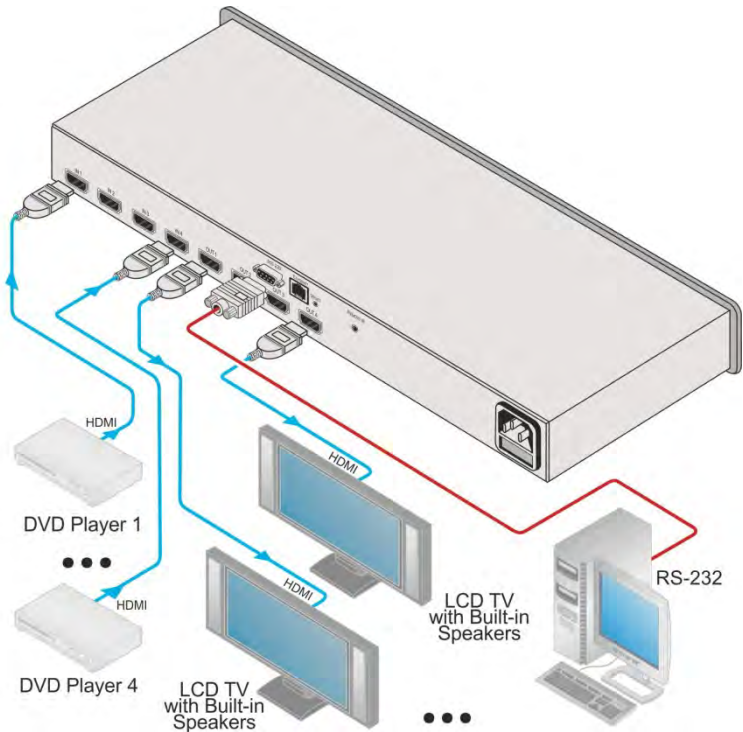

Figure 3: Connecting the VS-44HN 4x4 HDMI Matrix Switcher
To connect the **VS-44HN 4x4 HDMI Matrix Switcher** as illustrated in the example in Figure 3:
4. Connect the device to the mains electricity (not shown in Figure 3).